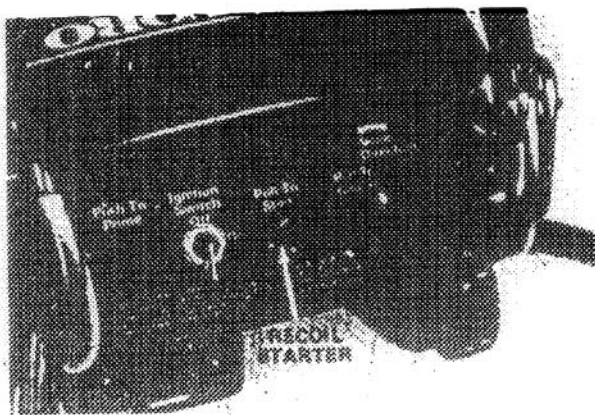

Figure 6
2. Clean area around snowthrower fuel tank cap so foreign matter does not get into fuel tank. Remove cap from fuel tank (Fig. 6).
1. Primer (Fig. 6) — Push primer to pump a small amount of fuel from the carburetor into the cylinder, which allows the engine to be started easier in cold temperatures. DO NOT USE PRIMER WHEN ENGINE IS HOT.
2. Choke (Fig. 6) — Pull choke out to start engine. Because air intake into carburetor is restricted, engine receives a rich fuel mixture for easy starting.
3. Ignition Switch (Fig. 6) — Switch has ON and OFF position. Rotate key to ON to open the switch; then engine can be started by pulling recoil starter or pushing start button on S200 electric start. Rotate key to OFF to stop the engine.
6. Recoil Starter (Fig. 6) — Pull recoil starter to start the engine.
7. Vane Direction Control (Fig. 6 and 7) — Rotate vane control to direct discharge of snow to either side or straight forward.